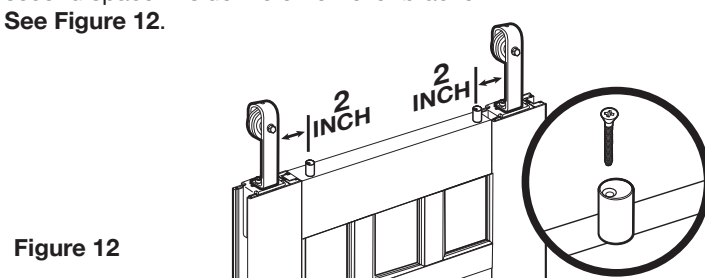

Figure 12
Once the Roller brackets have been secured and the finishing strips in place, it is important to install the Safety spacers (W). These spacers help to protect the door from being bumped off of the track. With the door laying flat in a safe and secure position, place one of the two spacers approximately 2" to the inside of one of the roller brackets. Place slightly off center towards the front of the door. Using a drill, secure the spacer with the screw provided. Rotate the spacer outward. Repeat steps to install the second spacer inside the other roller bracket. See Figure 12.